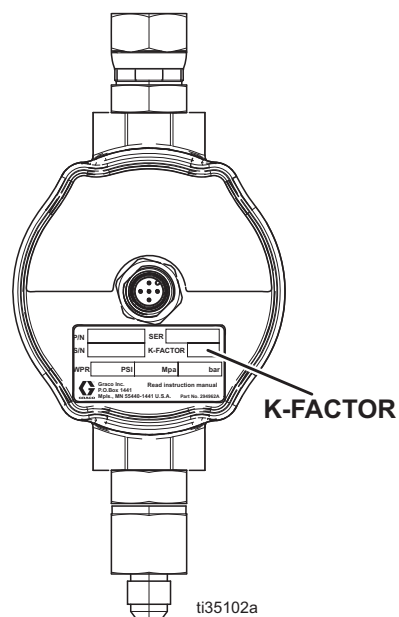

FIG. 14: K-Factor on Flow Meter
**NOTE:** The k-factors are printed on the flow meter serial labels. See FIG. 14.